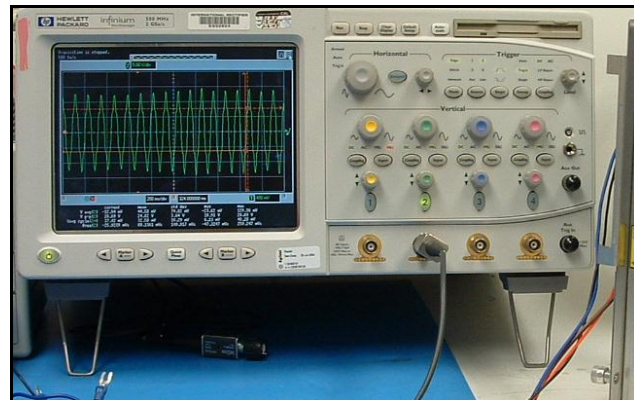

Figure 4—Measuring the Back EMF.
4. Motor Back EMF Constant ( $K_e$ )—Again connect two phases of the motor to an oscilloscope. Turn the motor at a constant rate and record the waveform as shown in Figure 4. (When the motor is turning at a constant speed, the back EMF waveform's peaks will all have the same magnitude.) To calculate the back EMF constant, begin by finding the rms voltage and the frequency (in Hz) of the waveform, then perform the following calculation: